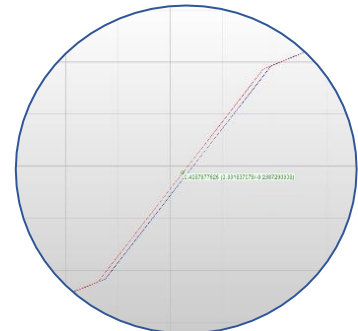

Figure 51
e. If you take a closer look and compare the currently created **I4** on layer 3 in red and the older **I4** on layer 1 in blue, you see that they differ slightly by approximately 0.4mm (Figure 51).